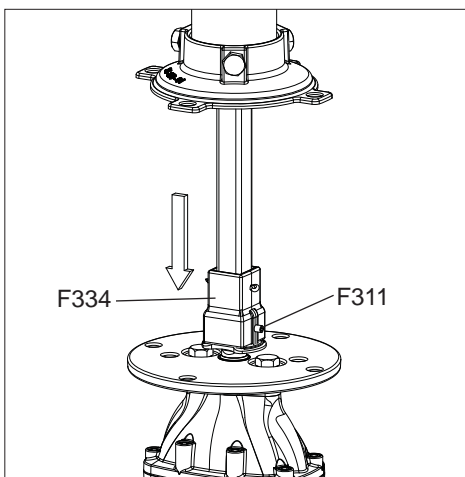

Fig. 4B
5. Position the post indicator Wrench Nut Adapter (#334) onto the valve wrench nut and tighten the Wrench Nut Adapter Setscrew (F311) with a 15/64", (6mm) Allen wrench (key). (See Fig.4B)